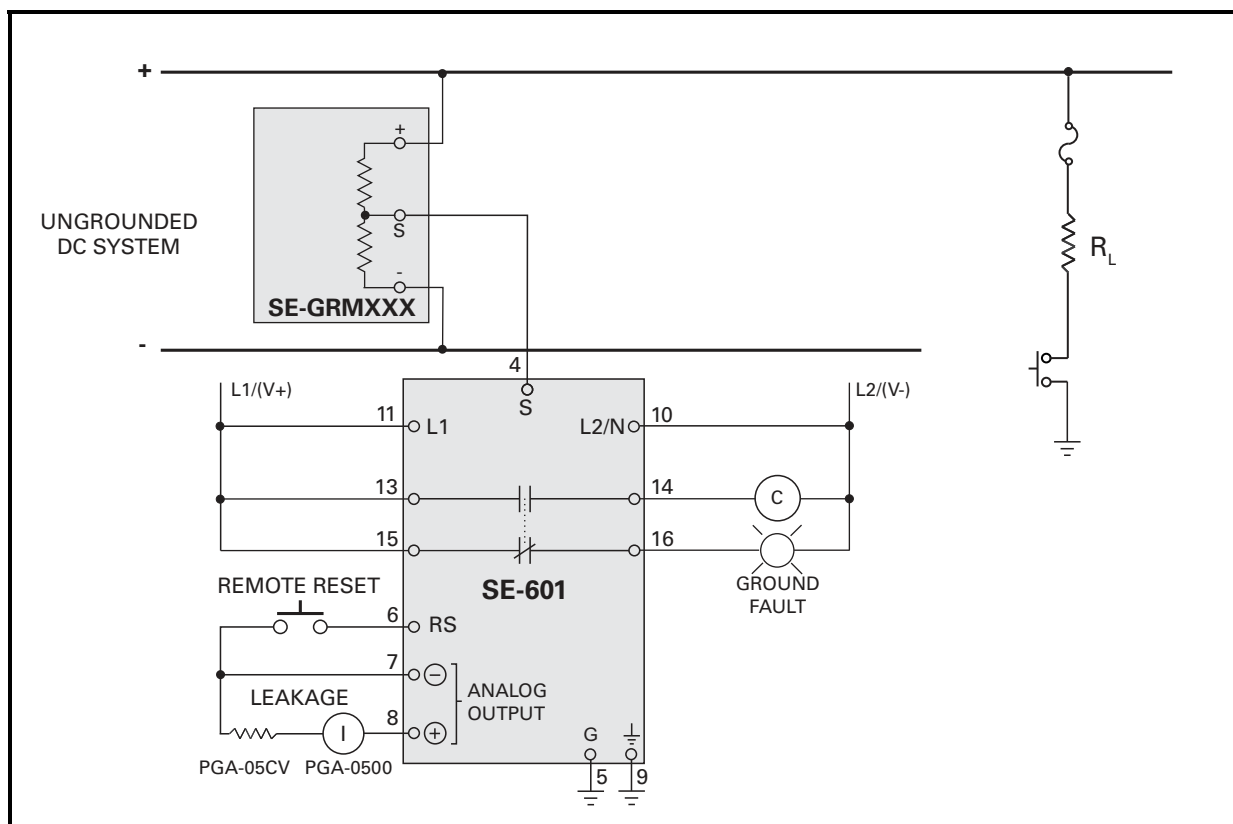

FIGURE 10. System Ground-Fault Test.
- For a system ground-fault test, install a fixed or variable resistance and switch that is suitably rated for the system. Install a fuse rated to protect the test circuit. The fixed test resistance can be sized to cause a ground-fault current just above the trip level setting. See Fig. 10. For a reference of fault-resistance values, see Table 1.